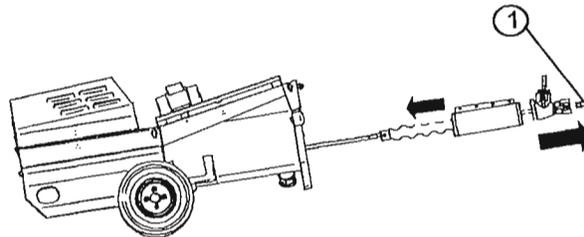

FIG 9
A reduction in material flow to the jet may indicate a worn pump. To replace the pump, proceed as follows: with the machine empty and clean, remove the vibrating screen or hopper grid, tilt the machine with manifold upwards, unscrew the tie-rod locking screws (ref. 1, fig. 9), and at the same time remove the delivery manifold, screw and stator (fig. 9).